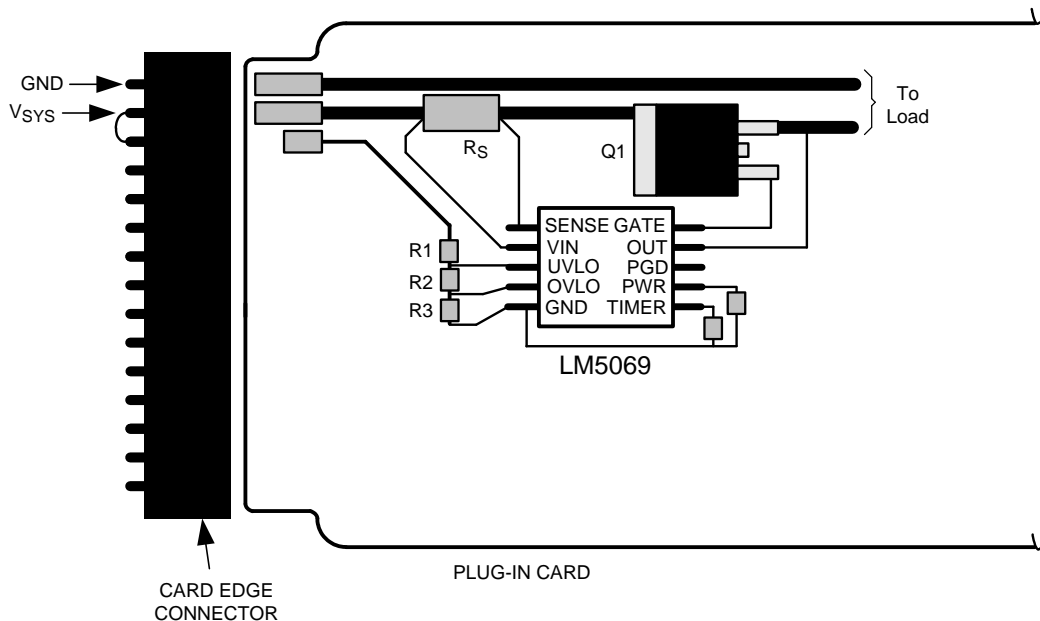

Figure 38. Recommended Board Connector Design
- The board's edge connector can be designed to shut off the LM5069 as the board is removed, before the supply voltage is disconnected from the LM5069. In Figure 38 the voltage at the UVLO pin goes to ground before V_{SYS} is removed from the LM5069 due to the shorter edge connector pin. When the board is inserted into the edge connector, the system voltage is applied to the LM5069's VIN pin before the UVLO voltage is taken high.